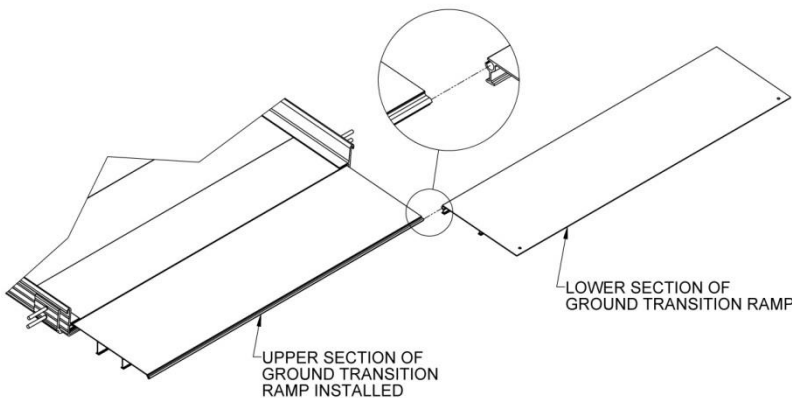

FIG. 3.11
3.4.3. Slide the lower section ground transition ramp into upper section (FIG. 3.11).